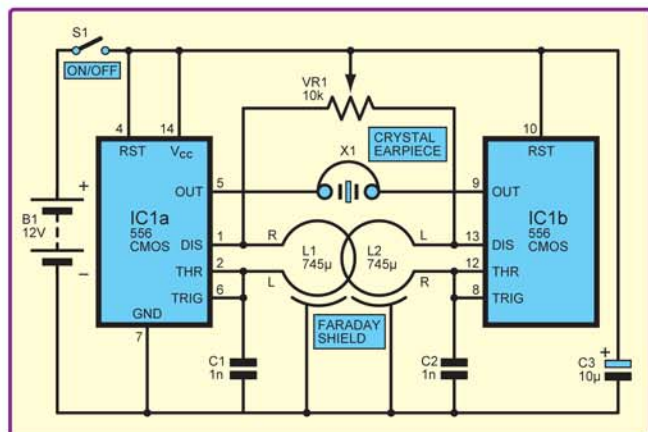

Fig.1. Circuit diagram for a LCR Beat Balance Metal Detector
In 2004, I introduced the concept of a beat balance (BB) metal detector in *EPE*. The circuit of Fig.1 shows a new, experimental BB embodiment, which is completely self-contained – and, with the use of just ten components, has the potential to pick up an old Victorian penny at 180mm. This is likely to be the biggest 'bang-for-buck' available from any self-contained metal detector design today.
These processors include some I/O pins that tolerate 5V being applied to them. As an example, the dsPIC33FJ128GP802, shown in Fig.1, highlights the 5V-tolerant pins. There aren't many pins, just seven, but that's enough for driving an LCD display in 4-bit data mode.